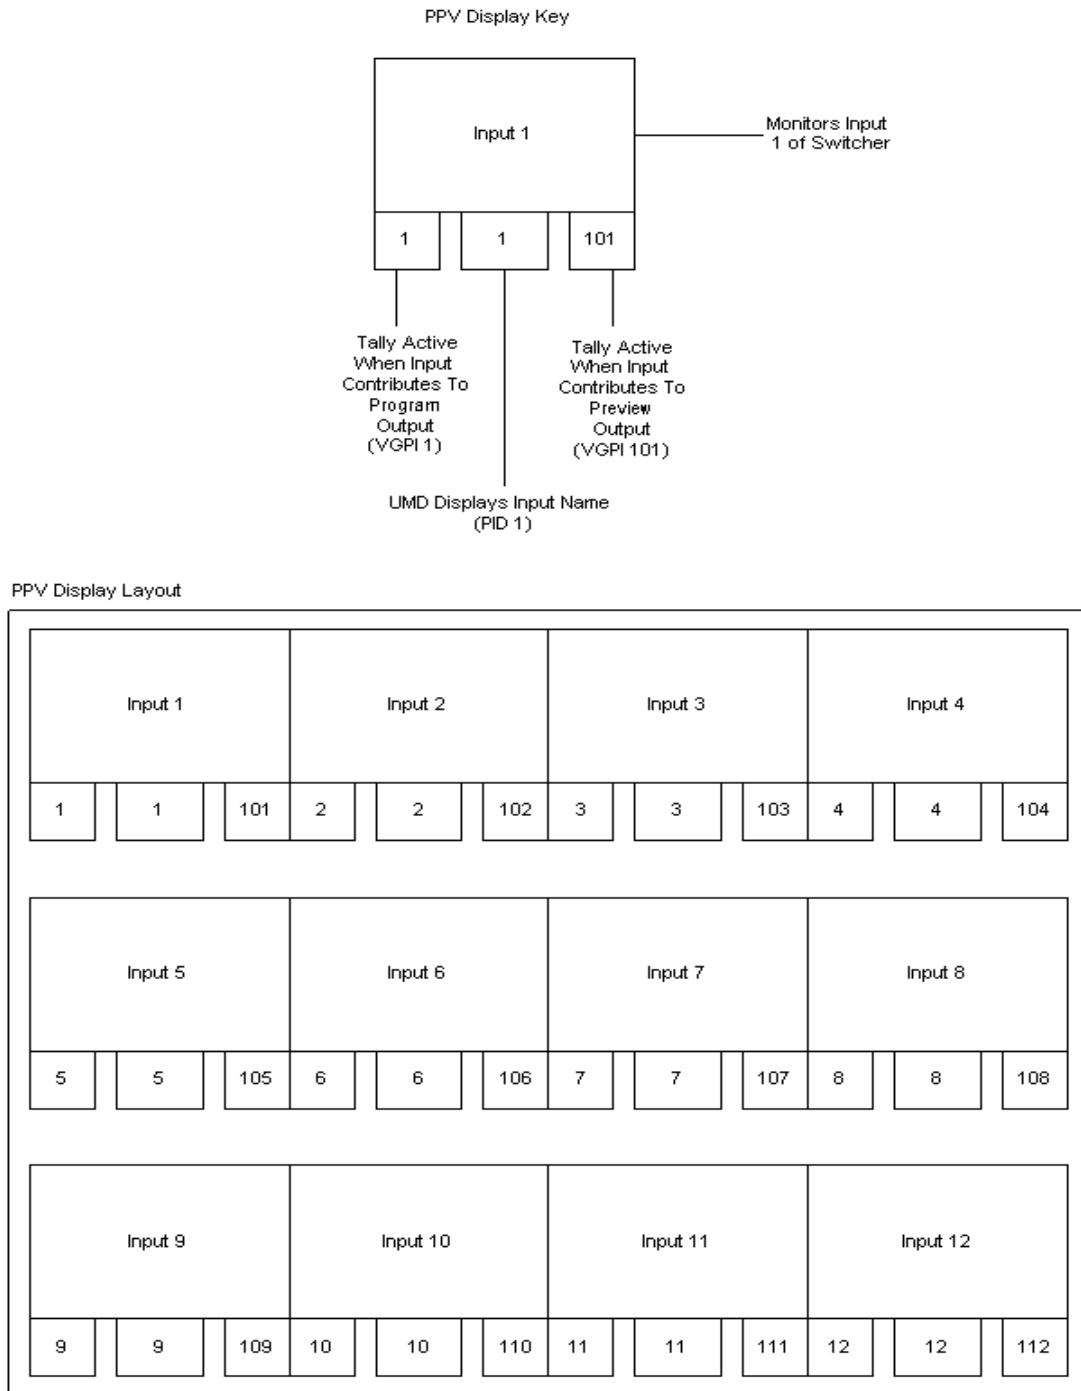

Figure 1-2: 7700PTX-CTP Example
| Figure 1-2: 7700PTX-CTP Example | 2 |
5. The MVP's output card display matches that of Figure 1-2 where each input has associated with it a program tally, a preview tally, and a UMD.